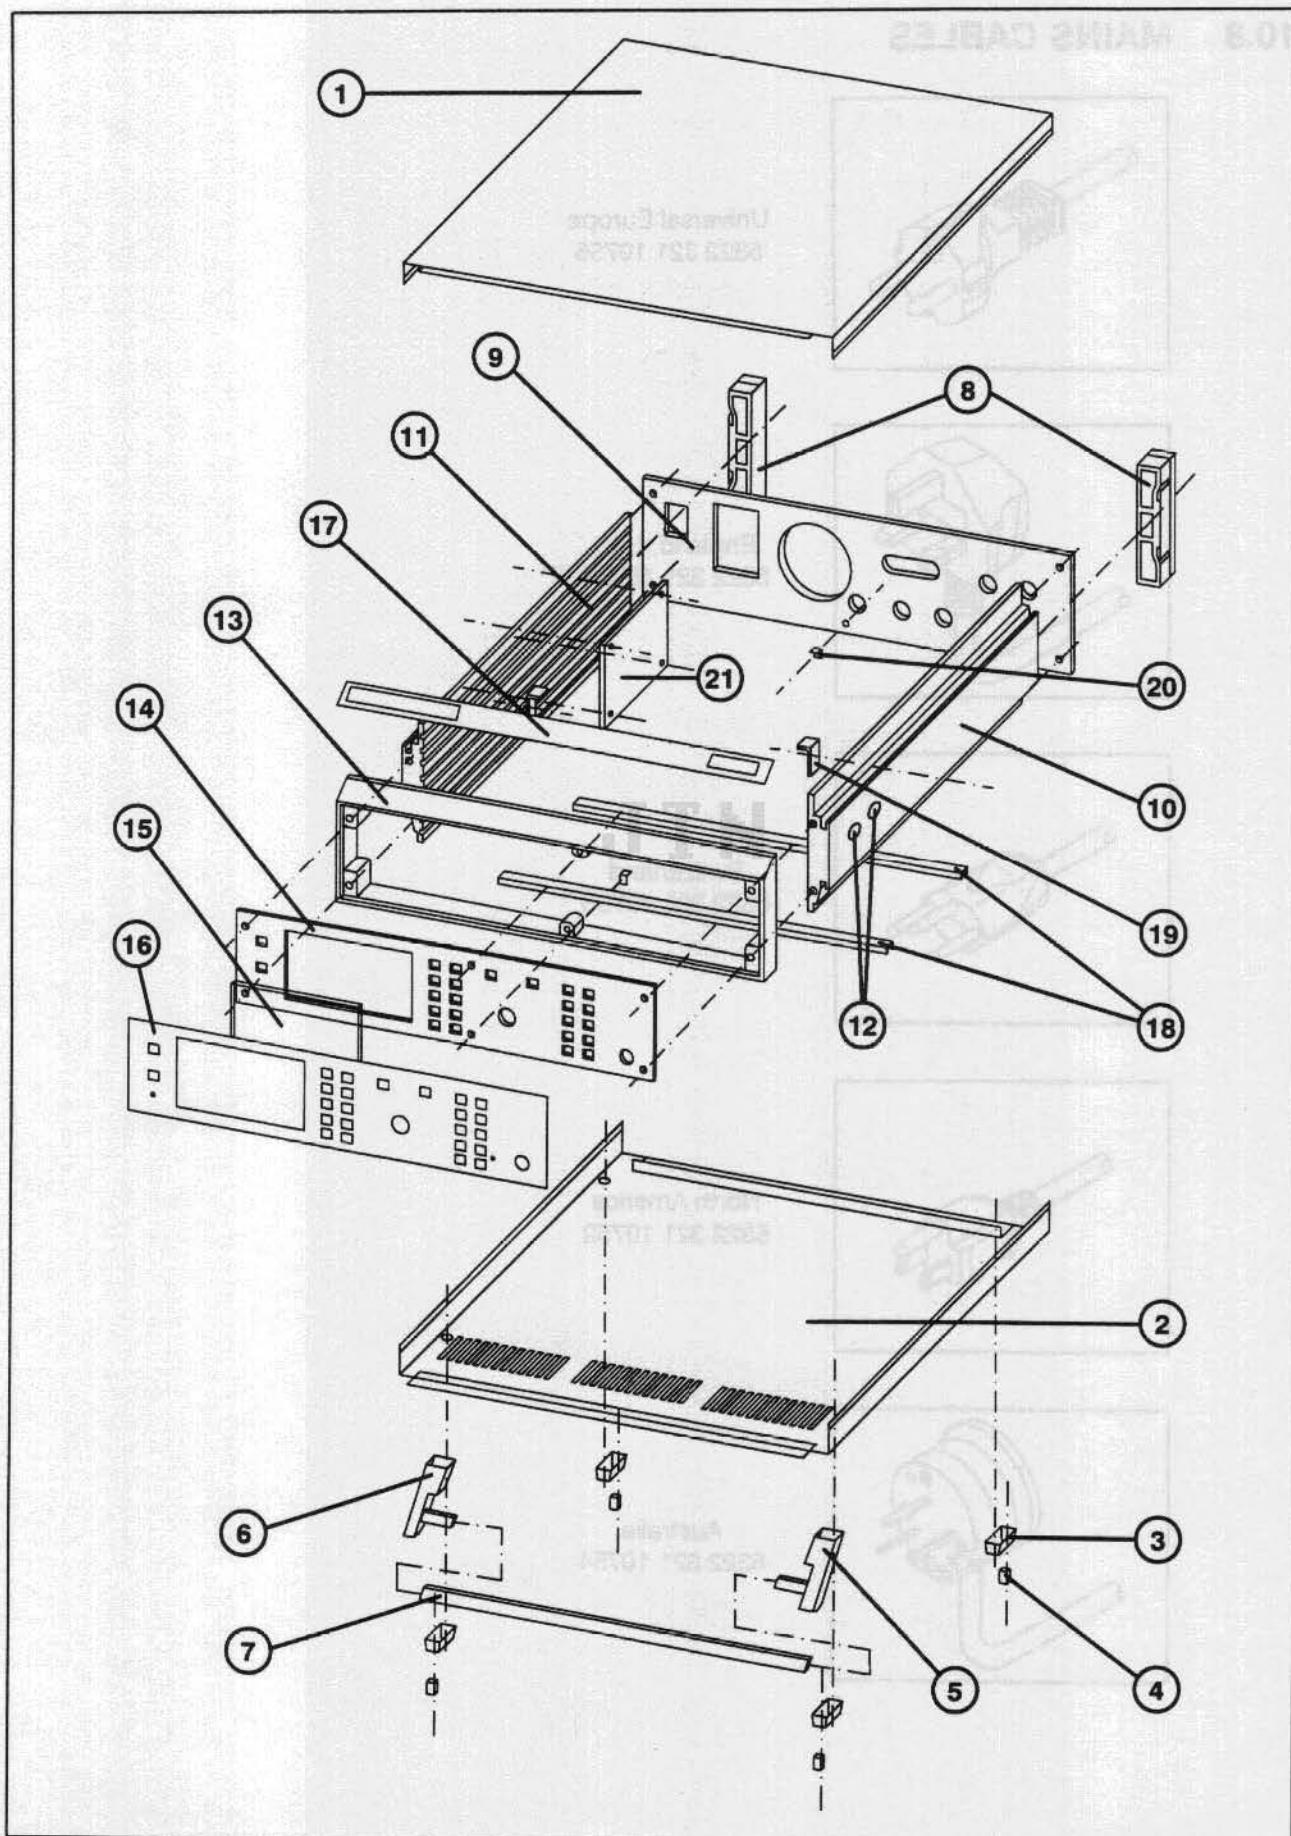

Fig. 30 Mechanical Parts, Housing
**10.9 MECHANICAL PARTS, HOUSING (Figure 30)**